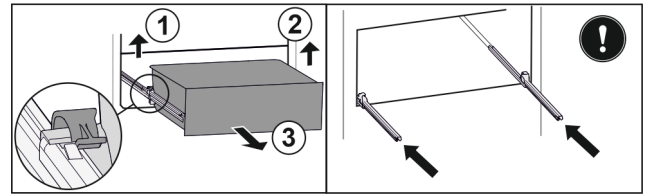

Fig. 64
- ▶ Lift left clamp and simultaneously pull drawer forwards on the left. Fig. 64 (1)
- ▶ Lift right clamp and simultaneously pull drawer forwards on the right. Fig. 64 (2)
- ▶ Remove drawer to the front. Fig. 64 (3)